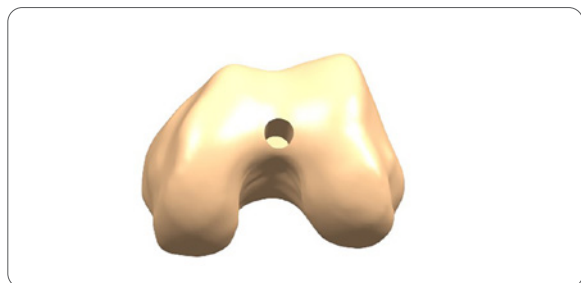

Figure 71
1. Open the femoral canal with the 9.5mm Intramedullary Drill. The drill has a 12mm step to open the entry point further (**Figure 71**).